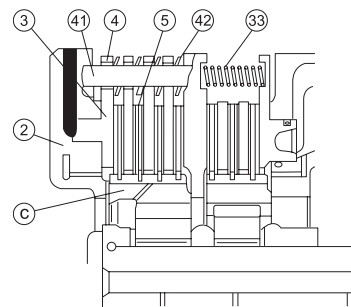

Figure 3-22
The disengagement of clutch is realized by pushing piston (3) to its original place through reset spring (33) after the pressure oil is cut off (see Figure 3-22). (42) is the butterfly-shaped spring. Its role is to accelerate the returning speed of piston (3), to improve the separation effect of the driving and driven friction disks.